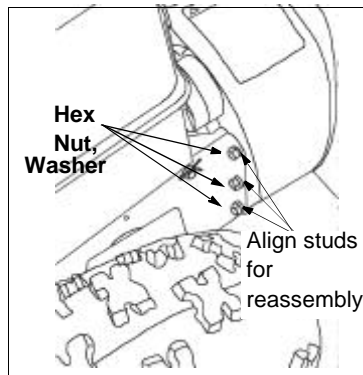

Figure 25
- Remove the six hex nuts and lock washers which attach the auger housing assembly to the frame assembly. See Figure 25.
- Level the frame assembly and tip the auger housing forward to align studs with the corresponding holes on both sides of the frame assembly. See Figure 25 . Push the frame assembly fully on to the studs.
- From the frame assembly side, insert six lock washers and hex nuts on to the studs . These pieces of hardware were removed earlier. See Figure 25. Tighten the nuts securely.